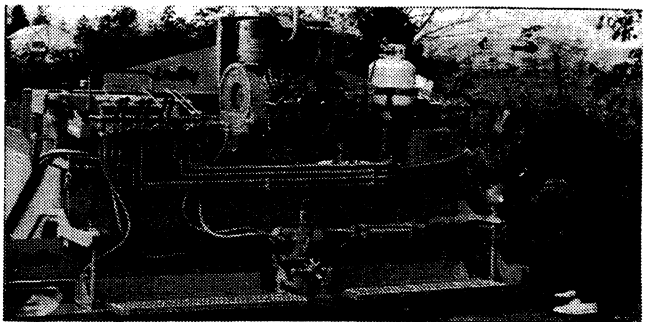

Figure 4-11 – Turning Thickness Control Screw
6. Turn thickness control screws (both sides) up or down until screed is flat on starting blocks as shown in Figure 4-11 (This will be indicated when the pressure it takes to turn the handle is greatly reduced). Now, turn thickness control screws about one-half turn UP (this may vary slightly with each machine). This will slightly raise the leading edge of the screed. As the paving operation begins and the screed slides off the starting blocks, the resulting mat will be the thickness of the starting blocks. If this slight increase in leading edge angle is not placed in the screed, it will fall as it comes off the blocks and cause an unwanted dip in the mat.